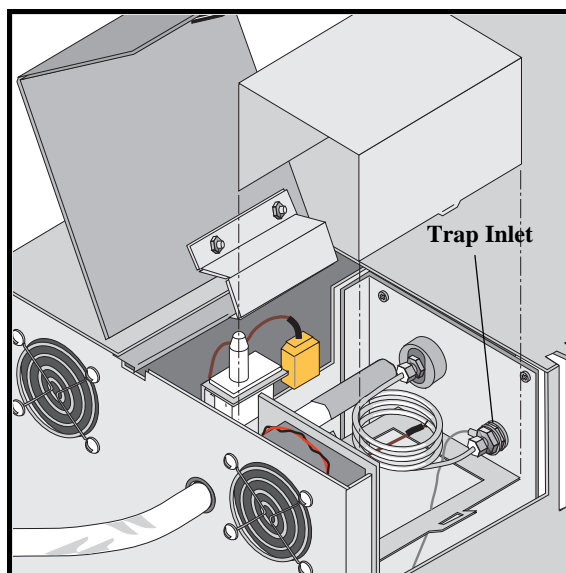

Figure 5.1. Changing the Trap
6. Install the new trap with the outlet (designated by an “O” on the trap nut) connected to the bulkhead closest to the Model 4560's center wall. The inlet will state the trap type on the nut (see Figure 5.1).